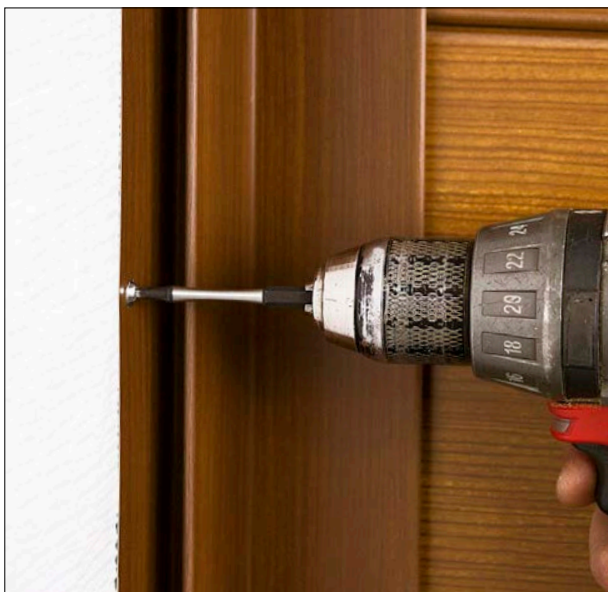

Fig.62
Step 3: Set the open inside corner (#712) in place and fasten (Fig.62).